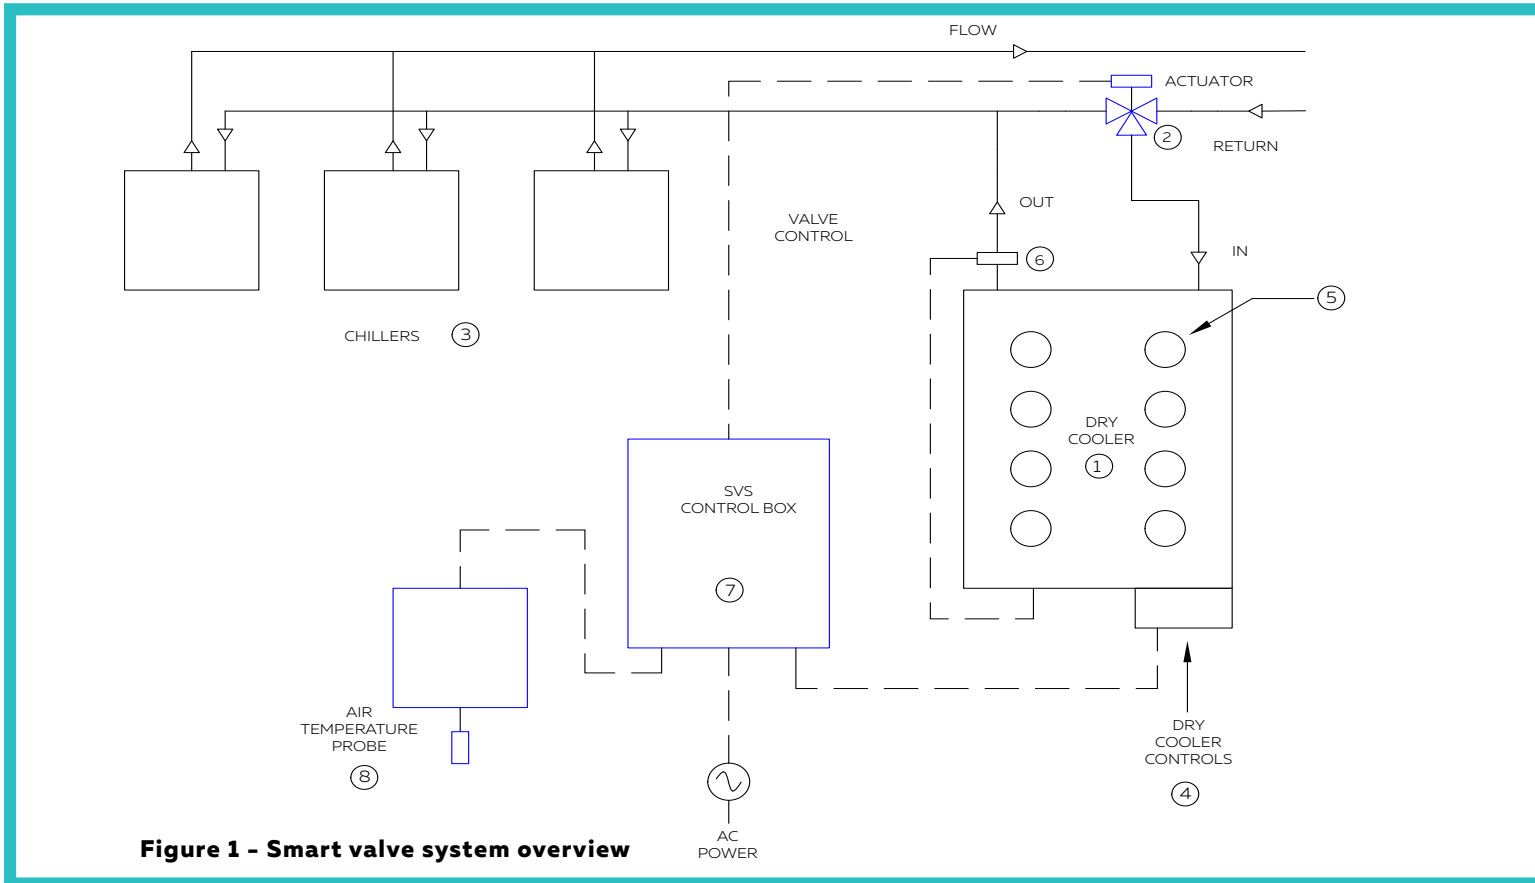

Figure 1 - Smart valve system overview
The Smart Valve System (SVS) allows up to two dry coolers to be added to a Surma hydronic cooling system. The automated valve system and associated controls cycle the dry cooler(s) to supplement the primary chilled water loop based on outside temperature. The SVS increases system efficiency and decreases operating costs. **Figure 1** shows the Surma SVS as integrated into a hydronic cooling system. In this case, only one dry cooler (4) is shown. The SVS components are shown in blue.
The dry cooler controls have an external temperature sensor that should be fitted in a well in the outlet water from each dry cooler, as indicated previously by (6) in **figure 1**. This sensor detects when the outlet water is above the configured set point, and runs the fans based on this as well as the differentials set, provided that the unit is enabled by the control box. The water temperature probe is included standard with the dry cooler.